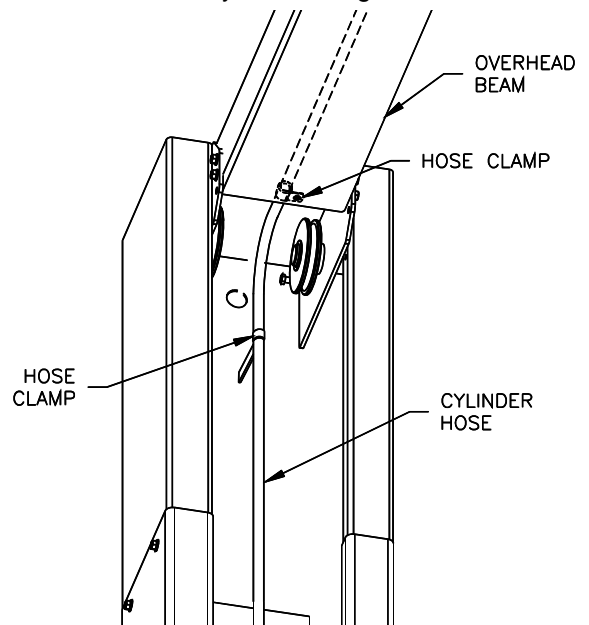

Fig. 11 – Power Unit Mounting
- 21) Uncoil Idler Side hose and route through Idler Side column extension as shown in **Fig 11** taking care to avoid the synchronizing cables.